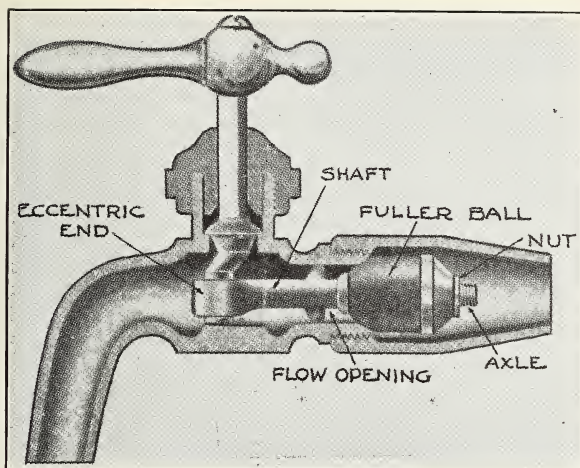

FIGURE 20.—Section of a Fuller faucet
*General description*.—In this type of faucet, which is often found in kitchen sinks, a hard-rubber or composition ball-like stopper, known as a Fuller ball, is fastened by a small nut or screw to a shaft having an eccentric end. (See fig. 20.) When the faucet handle is closed, this ball is drawn firmly against the opening, shutting off the flow of water; when opened, the ball is pushed away from the opening, allowing the water to pass through. The best grade of Fuller ball should be used. Such balls are made in various sizes, ranging from three-eighths inch to 1 inch and the most suitable one should be selected.